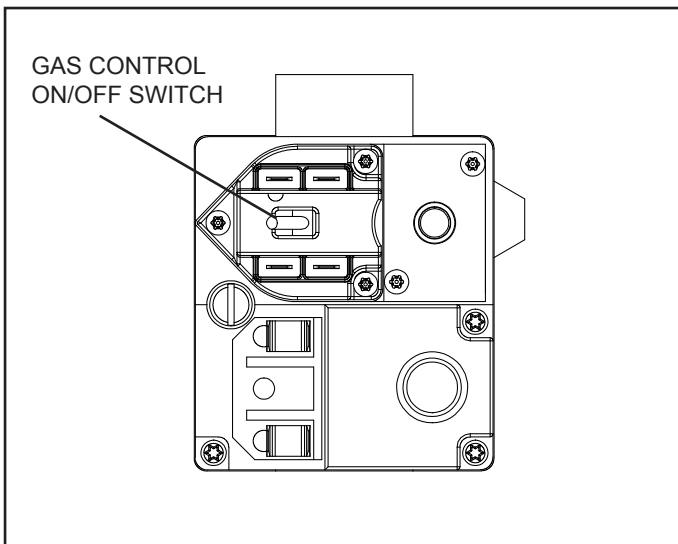

Figure 27. Gas Valve
5. Toggle gas control switch to OFF position. (See Figure 27).